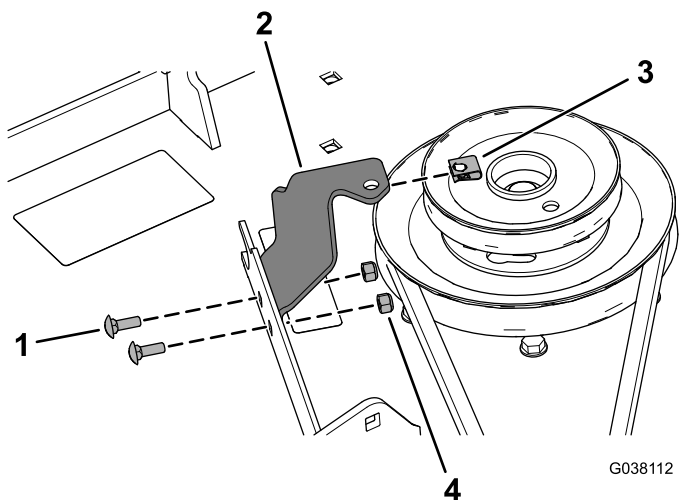

Figure 14
7. Install the belt-cover bracket to the mower deck using 2 carriage bolts (1/4 x 3/4 inch) and 2 locknuts (1/4 inch) as shown in Figure 14.
8. Install the speed nut onto the belt-cover bracket (Figure 14).